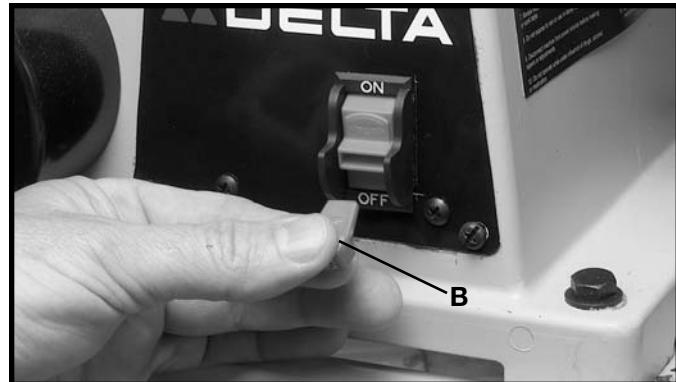

Fig. 20
IMPORTANT: When the machine is not in use, the switch should be locked in the “OFF” position to prevent unauthorized use. This can be done by grasping the switch toggle (B) and pulling it out of the switch, as shown in Fig. 20. With the switch toggle (B) removed, the switch will not operate. However, should the switch toggle be removed while the sander is running, it can be turned “OFF” once, but cannot be restarted without inserting the switch toggle (B).